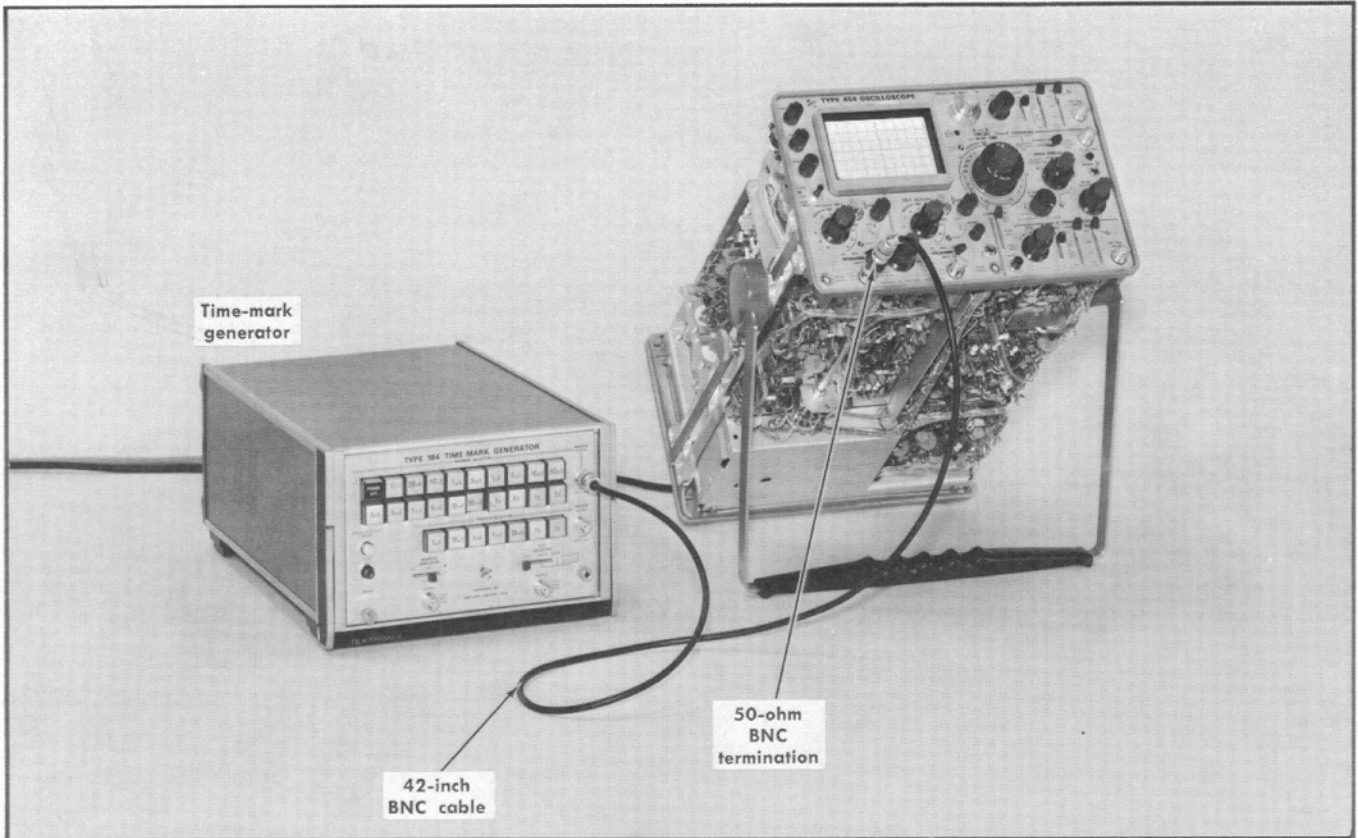

Fig. 6-43. Initial test equipment setup for steps 51 through 71.
- a. Test equipment setup is shown in Fig. 6-43.